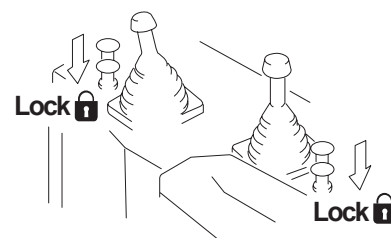

Figure 2-58
4. The blade and ripper should be lowered to the ground, and their control lever lock button should be in the LOCK position. (Figure 2-58)